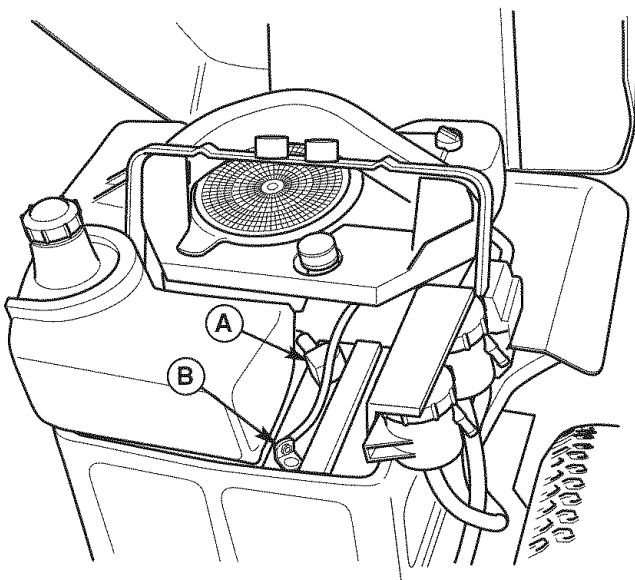

Figure 21. Engine Compartment
1. Disconnect the cables from the battery, negative cable first (B, Figure 21).
6. Reattach the battery cables: first attach the positive cable (see A, Figure 21), then attach the negative cable (B).